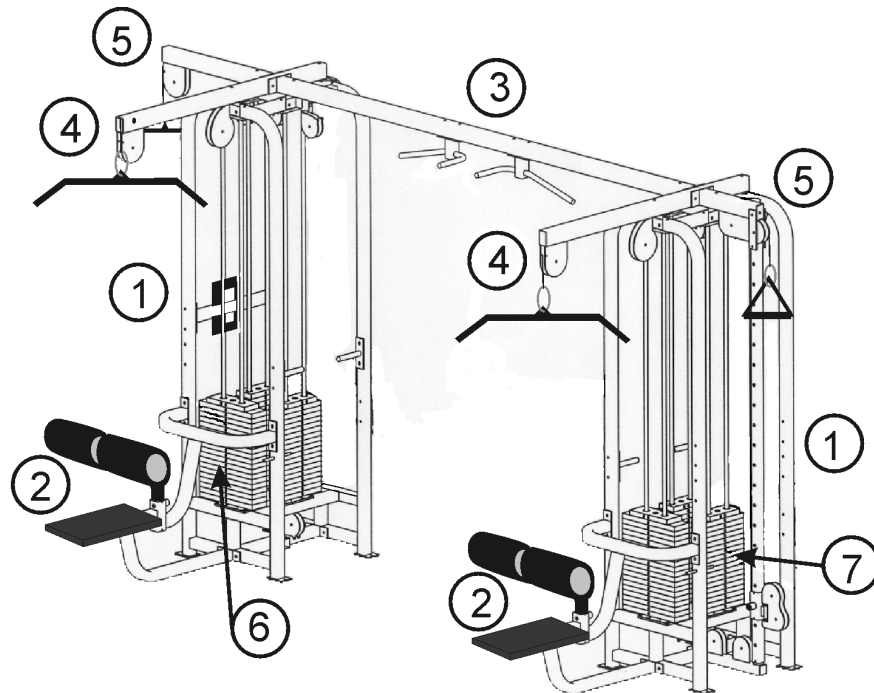
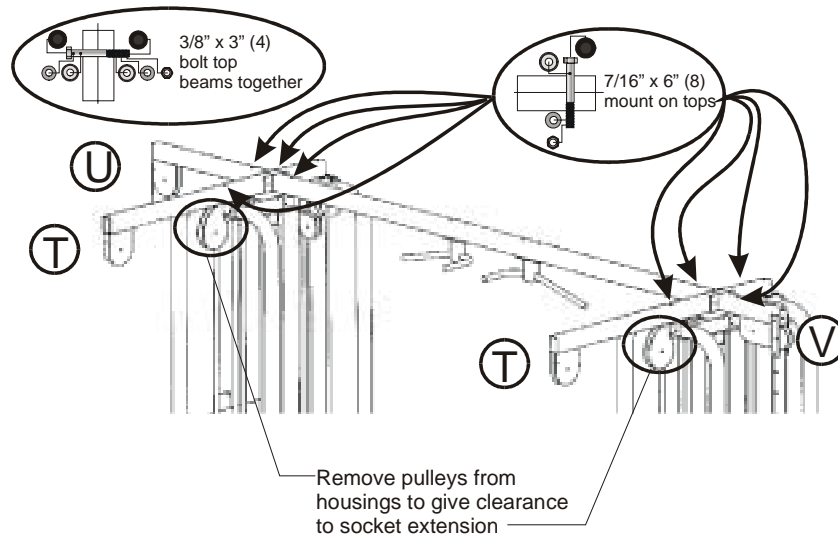

Figure 2. SM62 main components.
Figure 7. Bolt on the connecting beam, lat tops, tricep tops.
Figure 2 shows an assembled SM62.
- Bolt connecting beam to cubes** (part 4 from Figure 2) using a 5/8" socket with extension and combination wrench. Use two of the large 7/16" x 6" bolts, 7/16" washers, and 7/16" end cap washers and end caps. Figure 7 shows the connected cubes.
- Mount the 56" lat tops** (part T) to the cubes using a 5/8" socket and combination wrench by inserting two of the large 7/16" by 6" bolts using the hardware configuration shown in Figure 7. **Mount the 29" tricep tops** (part U) to the cubes using the 7/16" x 6" bolts. Secure to the lat tops using the 3/8" x 3" bolts. Use the hardware configuration shown in Figure 7. You will need to remove the pulleys from the teardrop pulley assemblies to gain clearance for the socket wrench extension. Leave the pulleys out of the housings until the cables have been installed.
The part shown in Hardware Figure 2 is the 9/16" cable jam nut that's used to secure the cables to the weight stacks.
Hardware Figure 2. Cable jam nut.